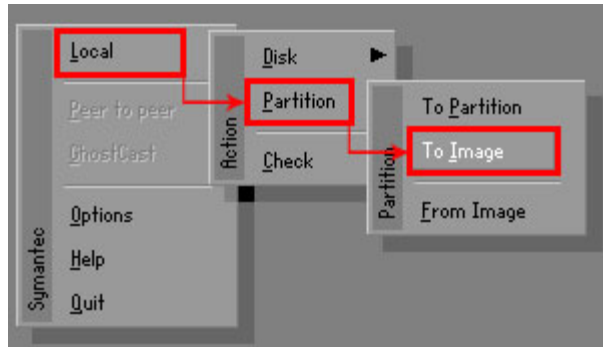

Figure C-10: Symantec Ghost Path
Step 4: Use mouse to navigate to the option shown below (**Figure C-10**).